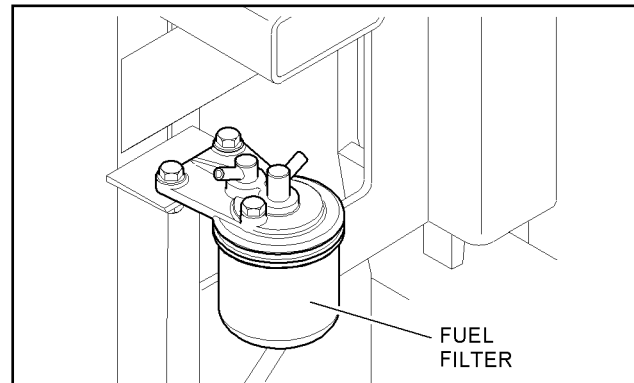

FIGURE 4-3. FUEL FILTER
3. Locate the fuel filter (Figure 4-3) located on the right side of the Curber.